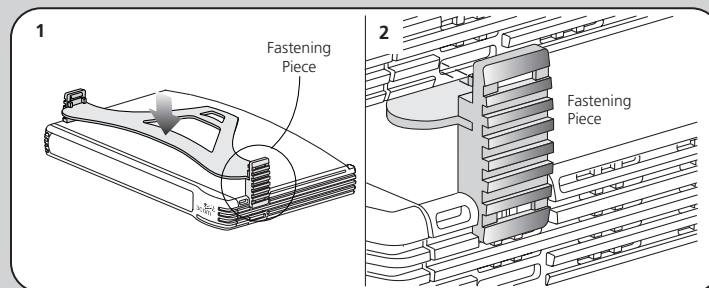

Figure 2 Stacking Your Units together
- 1 Fit the clip across the top of the unit, as shown in Figure 2 (picture 1), ensuring that the longer sections of the fastening pieces are pointing downwards.
- 2 Press down gently on the unit to secure it onto the clip, ensuring the fastening pieces fit into the slots on the unit below, as shown in Figure 2 (picture 2).